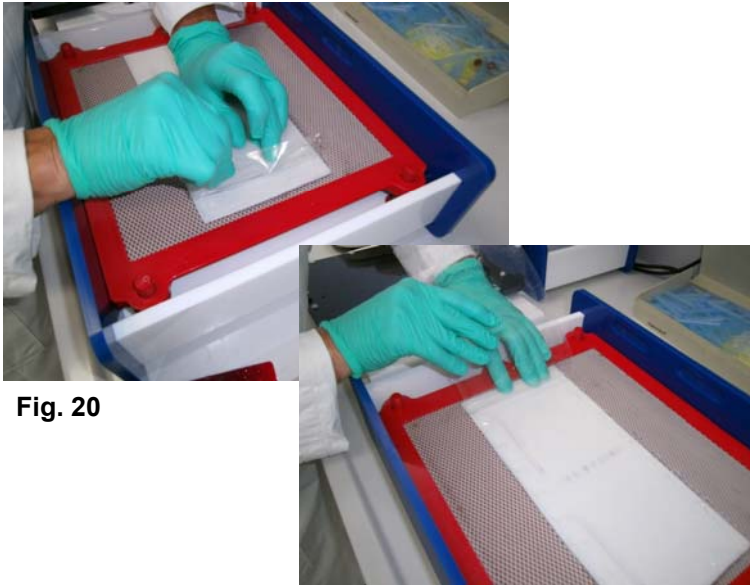

Fig. 20
- Carefully remove the backing film (Fig. 20).